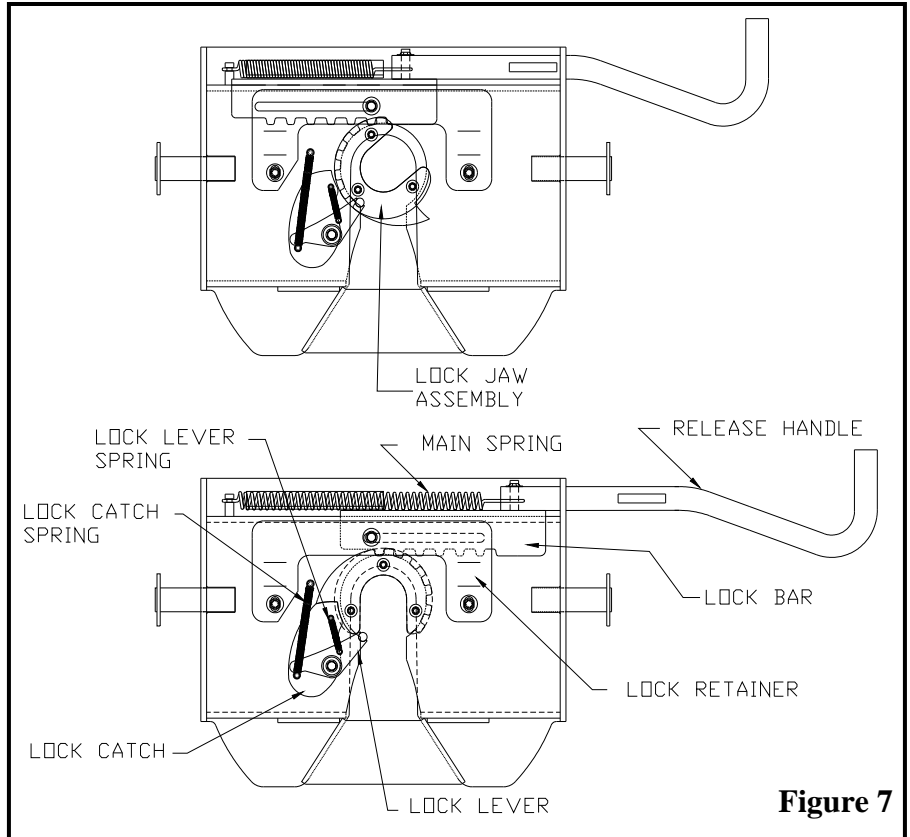

Figure 7
Remove the Plate (1) from the Rocker Arm and replace it upside down. Study **(Figure 7)** and manually operate the Release Handle to better understand the locking action. This will allow you to better understand the hitching procedure and prevent accidentally dropping your trailer due to incorrect hitching.
- 4) The Lock Jaw Assembly **(Figure 7)** must be in the unlocked position, see step 2 page 7. **Damage will result should you attempt to hitch up with the Lock Jaw Assembly in the closed position.**